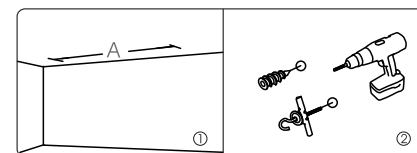

Figure1
1. Push inside 2 $\varnothing 10$ screws with hook (not supplied), make sure they are fastened. (Figure1)